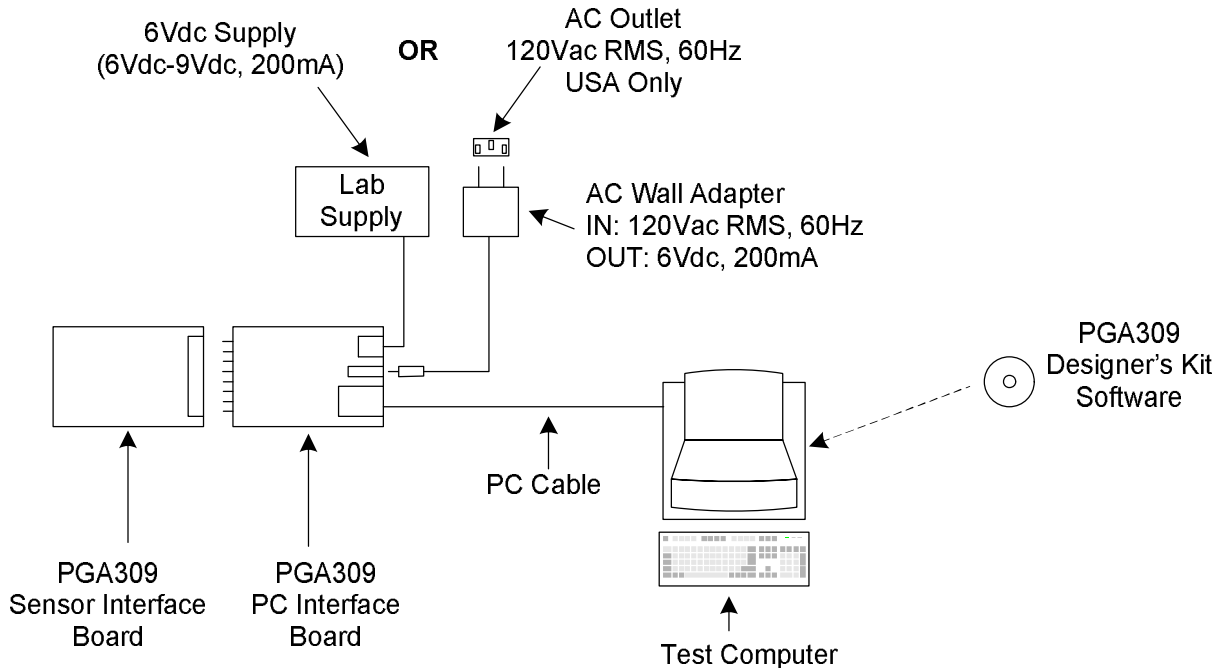

Figure 5: Hardware Setup – Initial Checkout
6.3 Hardware Setup (see Figure 5)